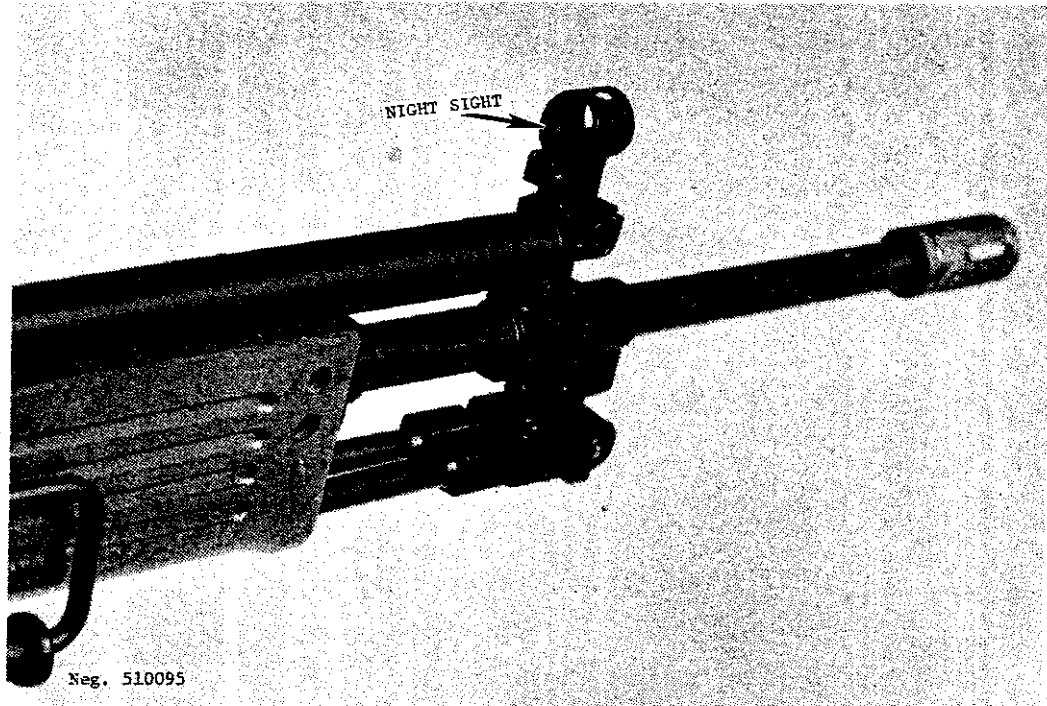

Figure 96. Galil front night sight.
e. The Galil has auxiliary luminous night sights (fig 96). Flip these sights up for use at ranges to 100 meters at night and flip them down for daytime use of the normal sights.